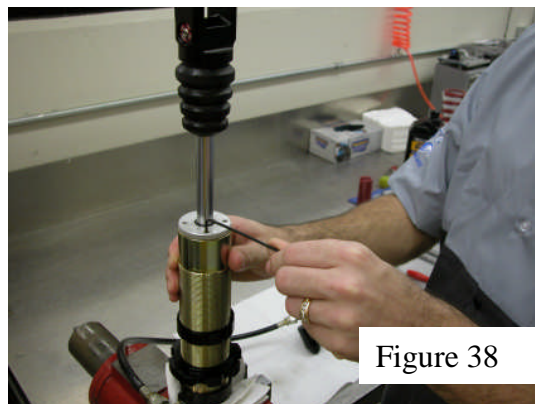

Figure 38
56. Clamp the body cap of shock securely in vice, with shaft end up. Use pin-spanner tool to secure the bearing cap to bearing. Using a 3/32" hex key, tighten the setscrew to lock the bearing cap into place. **(Figure 38)**